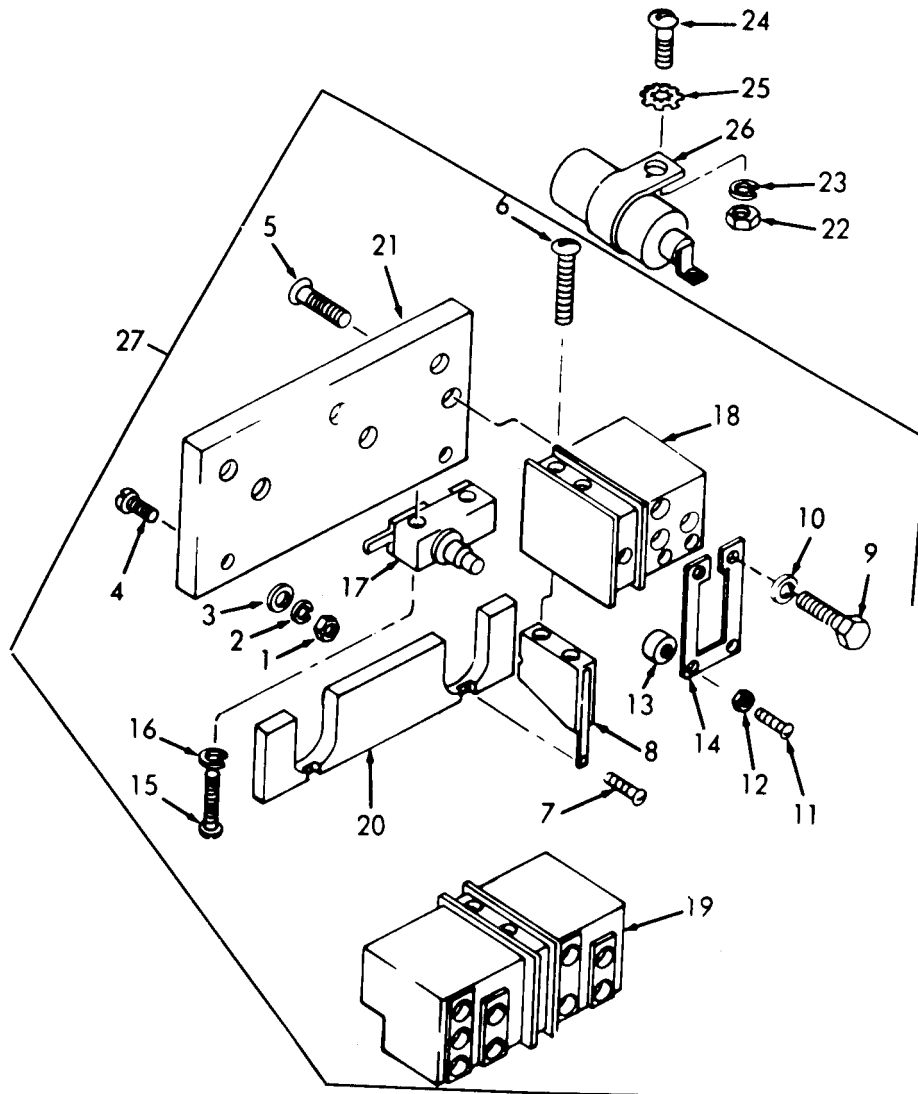

Figure 18-4. Overload Switch, Exploded View.
- b. Disassembly. Refer to figure 18-4, and disassemble the overload switch.
- c. Reassembly. Refer to figure 18-4, and reassemble the overload switch.
## LEGEND FOR FIGURE 18-4: